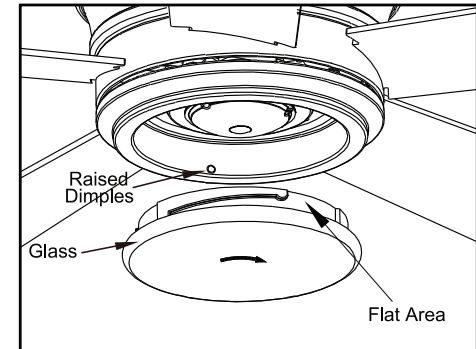

Figure 15
5. Place the glass bowl into the light kit pan, aligning the three flat areas on the top of the glass bowl with the three raised dimples in the light kit pan. Turn the glass bowl clockwise until it stops. (Figure 15)